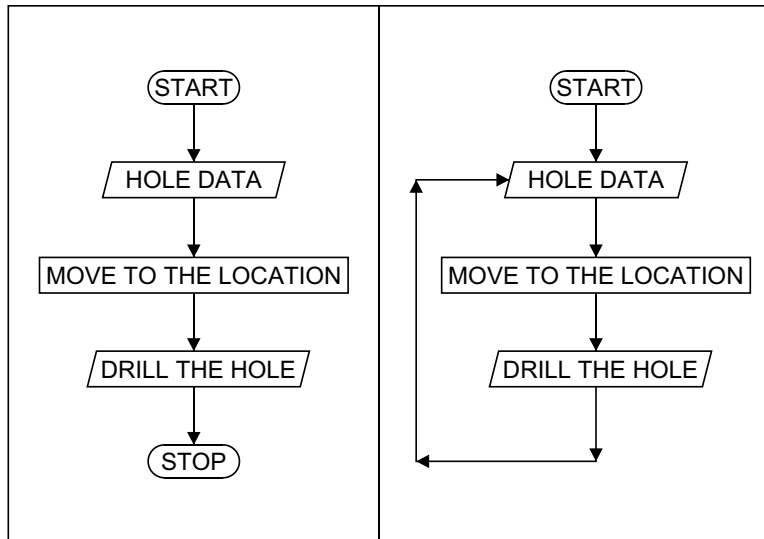

Figure 20
In the next stage, the same example will be explored, this time to drill more than a single hole. The above *top-down process* is not quite sufficient and a different technique has to be used. Before thinking of a technique, think of a process. *What has to change?* We do *not* want to always start and stop after drilling the first hole, do we? We want to input the next hole location (item 2), move to that location (item 3), drill the hole at that location (item 4), and - we want to repeat these three steps until *all* holes are done. Hopefully, the description was clear enough, but a graphical representation - using a simple flowchart - shows the comparison of both methods (*Figure 20*).
The two comparable flowcharts indicate the drilling process in principle. However, there is a major and a very serious problem with the repeated structure. *There is no way out!* The repetition shown at the right side of *Figure 20* has no provision to stop the processing - *the loop is not stopped - it is not controlled* - logically, it runs forever!
It is extremely important to provide an *exit* from a loop, when certain conditions are satisfied, for example, when the last hole is drilled. Failure to provide an exist from a loop will cause an *endless or infinite loop*. Infinite loops are the most common causes of problems in macro loops. Terminating a loop is always determined by a specific condition. This condition has to be part of the loop, based on the job requirements, with the provision to branch out of the loop, when the condition becomes *false*. The repetitive flowchart shown in *Figure 20* has to be modified.